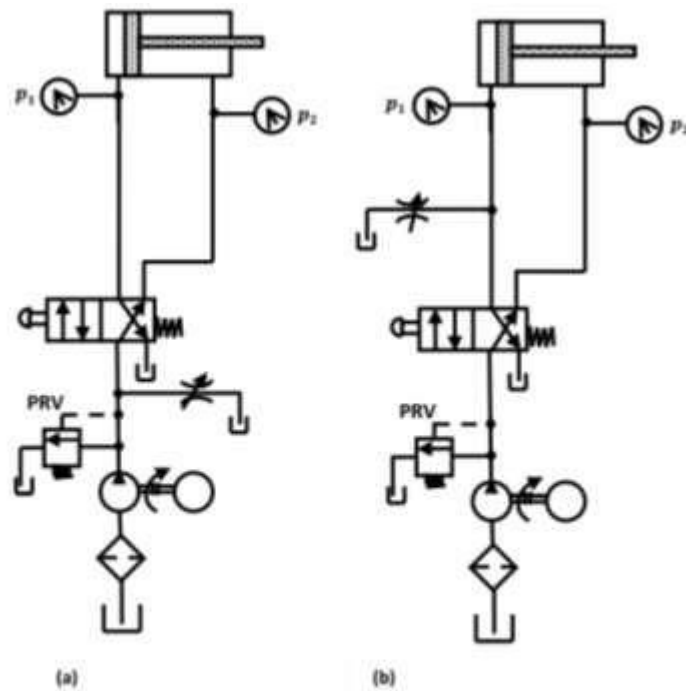

Figure 1.10 Bleed-off circuits:(a) Bleed-off for both directions and (b) bleed-off for inlet to the cylinder or motor.
Three-way valves either block or allow flow from an inlet to an outlet. They also allow the outlet to flow back to the tank when the pump is blocked, while a two-way valve does not. A three-way valve has three ports, namely, a pressure inlet (P), an outlet to the system (A) and a return to the tank (T). Figure 1.10 shows the operation of a 3/2-way valve normally closed. In its normal position, the valve is held in position by a spring as shown in Fig. 1.10(a). In the normal position, the pressure port P is blocked and outlet A is connected to the tank. In the actuated position shown in Fig. 1.10(b), the pressure port is connected to the tank and the tank port is blocked.
Figure 1.10 3/2-way DCV (normally closed). (a) Ports A and T are connected when force is not applied (valve unactuated). (b) Ports A and P are connected when force is applied (valve actuated).
Compared to meter-in and meter-out circuits, a bleed-off circuit is less commonly used. Figure 1.10 shows a bleed-off circuit with extend stroke control. In this type of flow control, an additional line is run through a flow-control valve back to the tank. To slow down the actuator, some of the flow is bleed off through the flow-control valve into the tank before it reaches the actuator. This reduces the flow into the actuator, thereby reducing the speed of the extend stroke. The main difference between a bleed-off circuit and a meter-in/meter-out circuit is that in a bleed-off circuit, opening the flow-control valve decreases the speed of the actuator, whereas in the case of a meter-in/meter-out circuit, it is the other way around.